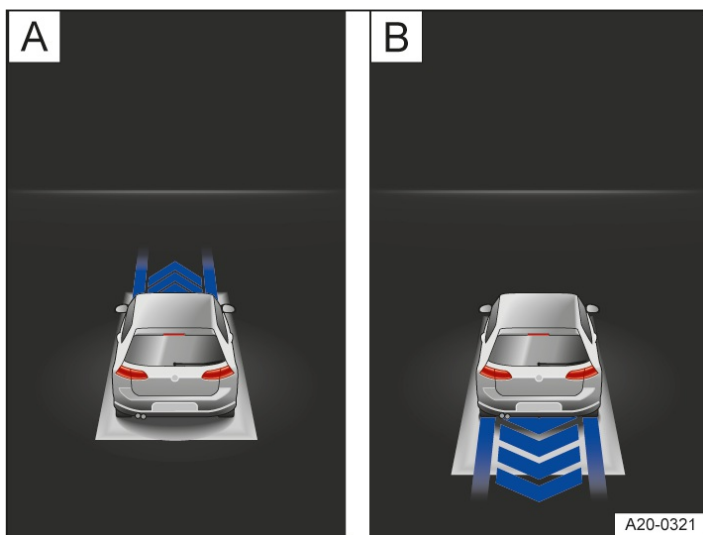

Fig. 2 In the instrument cluster display: prompt to change direction of travel (illustration).
8. If a change of direction is indicated in the instrument cluster, change to the corresponding gear → Fig. 2. Observe the text messages.